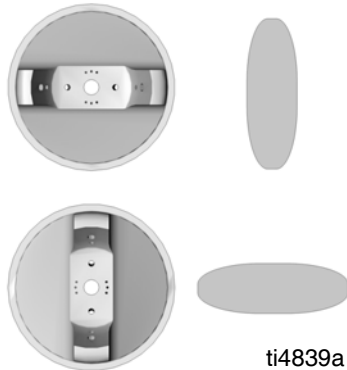

FIG. 2
1. Rotate the air cap to achieve desired spray pattern. See FIG. 2